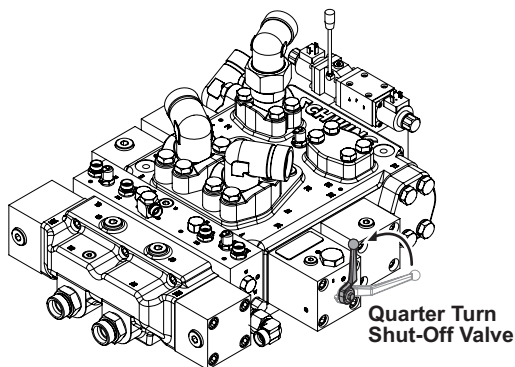

Figure 32
1. With the engine running and E-stops cleared, increase the throttle to maximum RPM. Close the quarter turn valve (Figure 32).